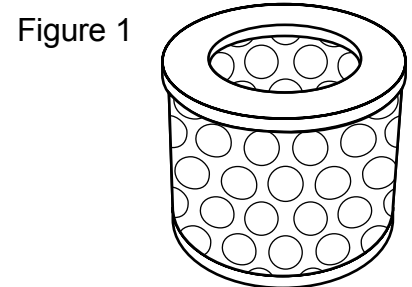

Figure 1
- The air filter (Figure 1) should be free of holes and white in color.